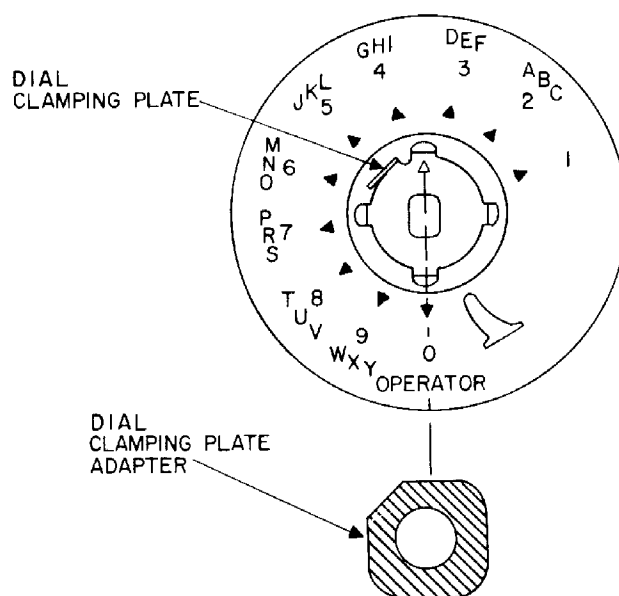

Figure 10. Dial Clamping Plate Adapter Location on the Dial.
5.18 The dial clamping plate adapter PP-1108 (Figure 10) is used to prevent the D-780896-A acrylic or polycarbonate fingerwheel from unintentionally snapping off the dial clamping plate due to sprung or ill-fitting clamps. The adapter reinforces the clamping plate and prevents the removal of the fingerwheel without the use of fingerplate removal tool H-886316-1 or equivalent.